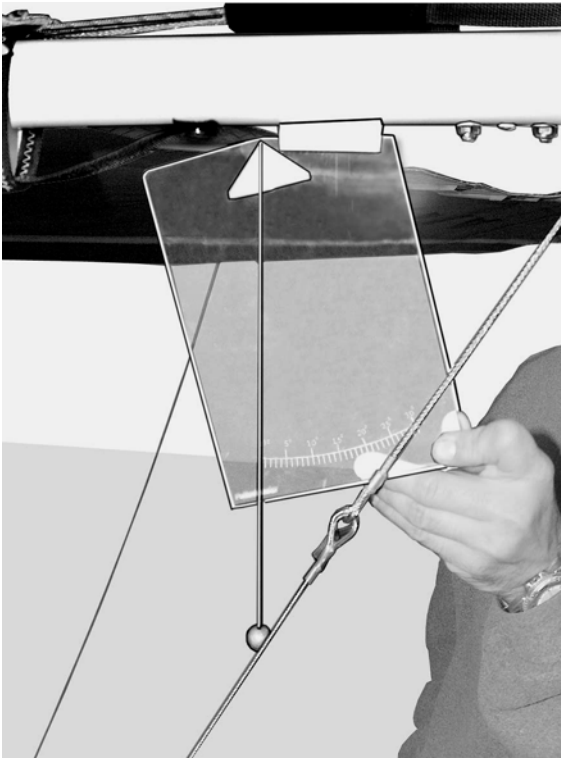

Fig. 28
2. Using the Pellicciometer as shown on fig. 28 set the keel tube horizontal (0 deg. on the Pellicciometer) and put a keel tube on a support to maintain 0 deg. angle during further measurements.